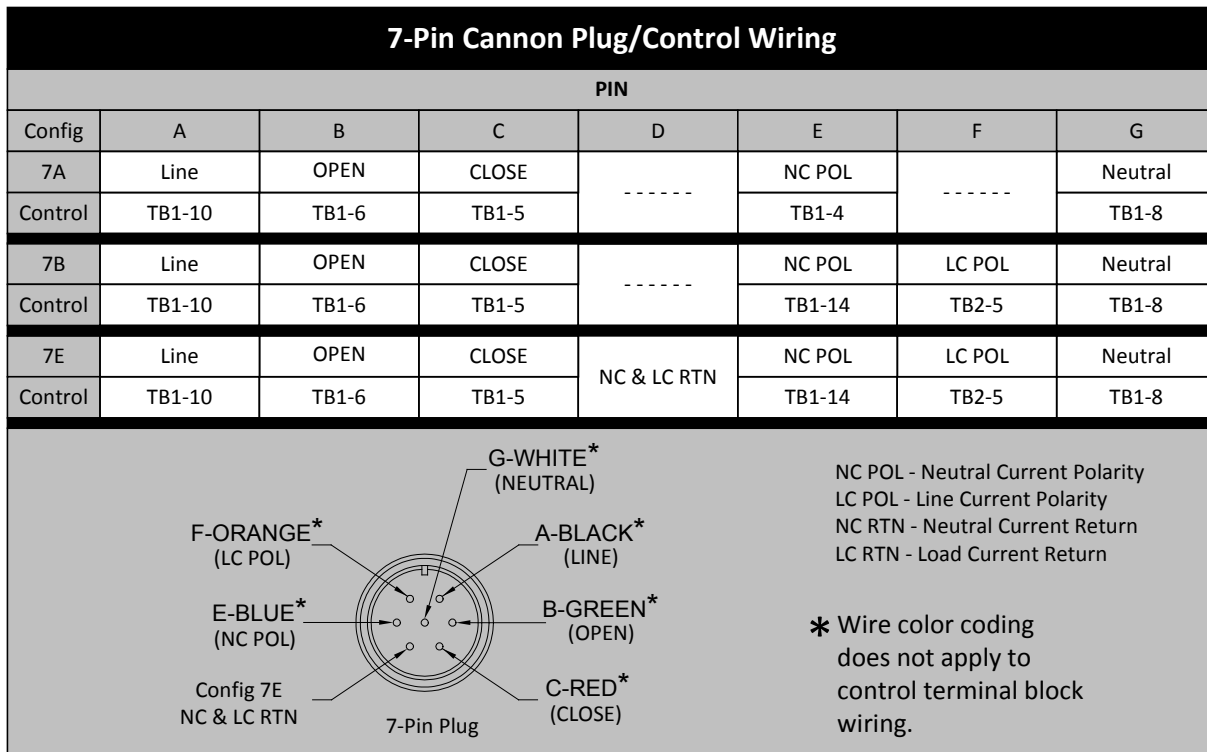

Figure 14 7-Pin Cannon Plug/Control Wiring
- 7-Pin Cannon Connector (7E Standard) (Figure 14), Cannon Bulkhead Shell 20-15P
- 7-Pin Cannon Connector Shell 20-15P (7E Standard) (Figure 14)